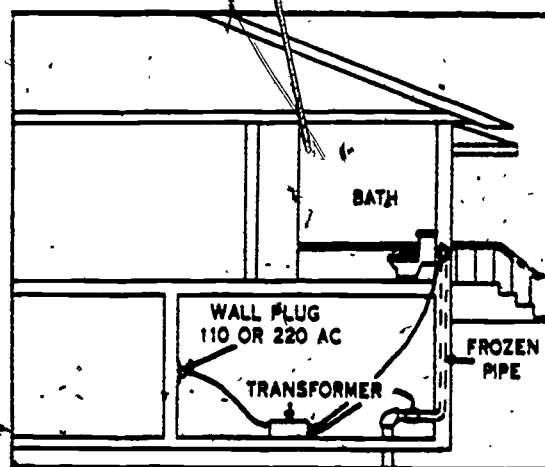

Figure 4-16. Thawing a water supply pipe with a transformer.
Good electrical connections are necessary when thawing pipe with electrical equipment. The point where the cables are attached to the pipe must be thoroughly cleaned. This is easily accomplished by rubbing the pipe with coarse emery cloth. Make sure the connections are tight to prevent arcing and burning a hole in the pipe. Either special pipe-thawing clamps or ordinary C-clamps are excellent for connecting the cables to the pipes (see fig. 4-15). Current used to thaw pipes may be produced by either an electrical transformer or an electrical generator. Figure 4-16 shows a transformer used for thawing pipes.
**Electrical thawing equipment.** The electrical thawing equipment used for average household plumbing is of the transformer type. It is designed to operate on either 110 or 220 volts alternating current, which is found in most barracks, mess halls, and residential buildings. This type of thawing equipment gives excellent results on short lengths of pipe up to 1 1/2 inches in diameter. A transformer unit set up to thaw a water supply pipe within a wall that serves a water closet is shown in figure 4-16. The transformer leads are attached to the pipe so that the frozen section of the pipe is within the circuit. After the leads are properly connected to the pipe, the current is turned on and adjusted by turning the rheostat to the desired voltage.